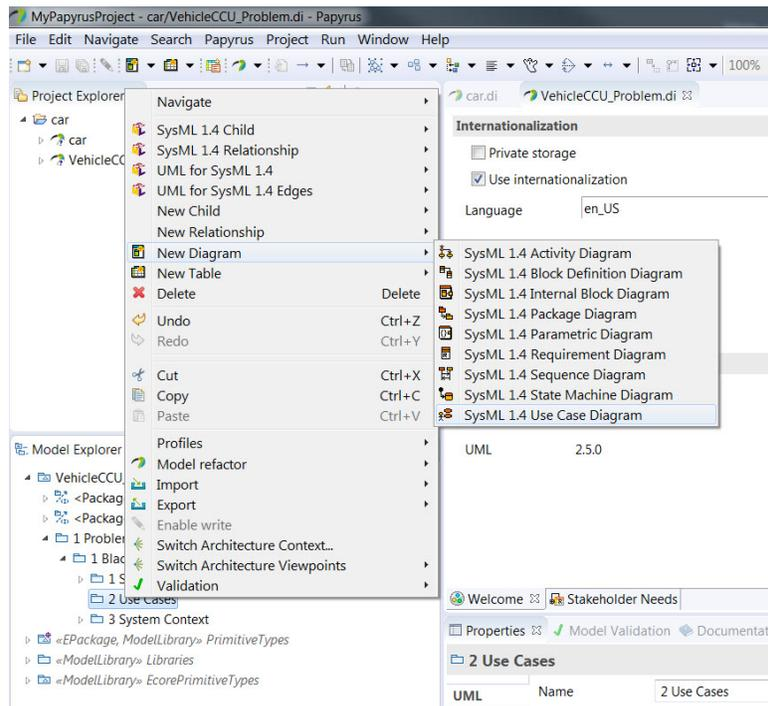
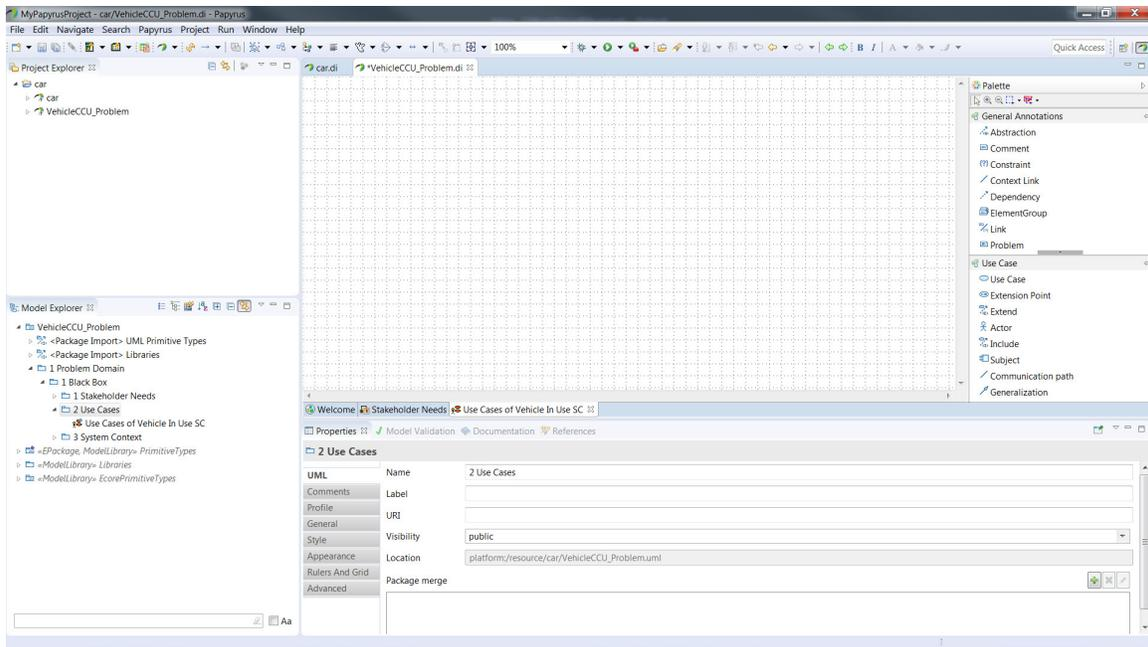

Figure 26: Use Case Diagram Creation
Figure 27: New Use Case Diagram
- Now that we have created the use case package we need to create a Use Case Diagram. In the *Model Explorer* window, Right-click on the *2 Use Cases* package that you created in the previous step and select *New Diagram* and then *SysML 1.4 Use Case Diagram* (figure 26). Name the diagram *Use Cases of Vehicle In Use SC*. The new use case diagram will appear under your *2 Use Cases* package and a new blank use case diagram should appear in the main window (figure 27).